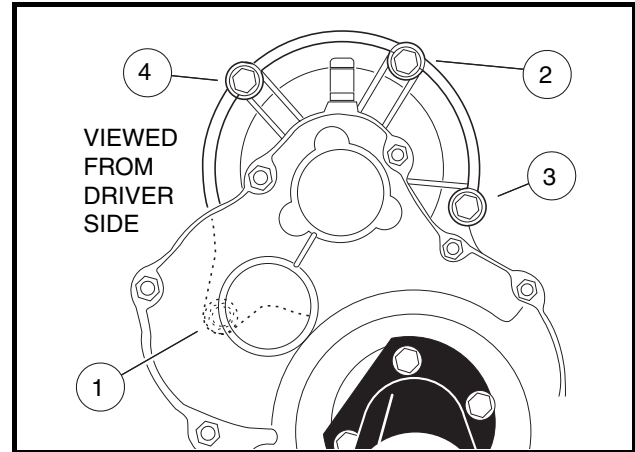

Figure 15-18 Motor Mount
- 4.3. Begin finger-tightening the bolts (1 and 2) in the sequence indicated (**Figure 15-18, Page 15-13**). Continue tightening by hand until the motor is seated in the transaxle housing. **See following CAUTION and NOTE.**
- 4.5. Tighten the center bolt (2) to 65 in-lb (7.3 N·m) (**Figure 15-18, Page 15-13**).